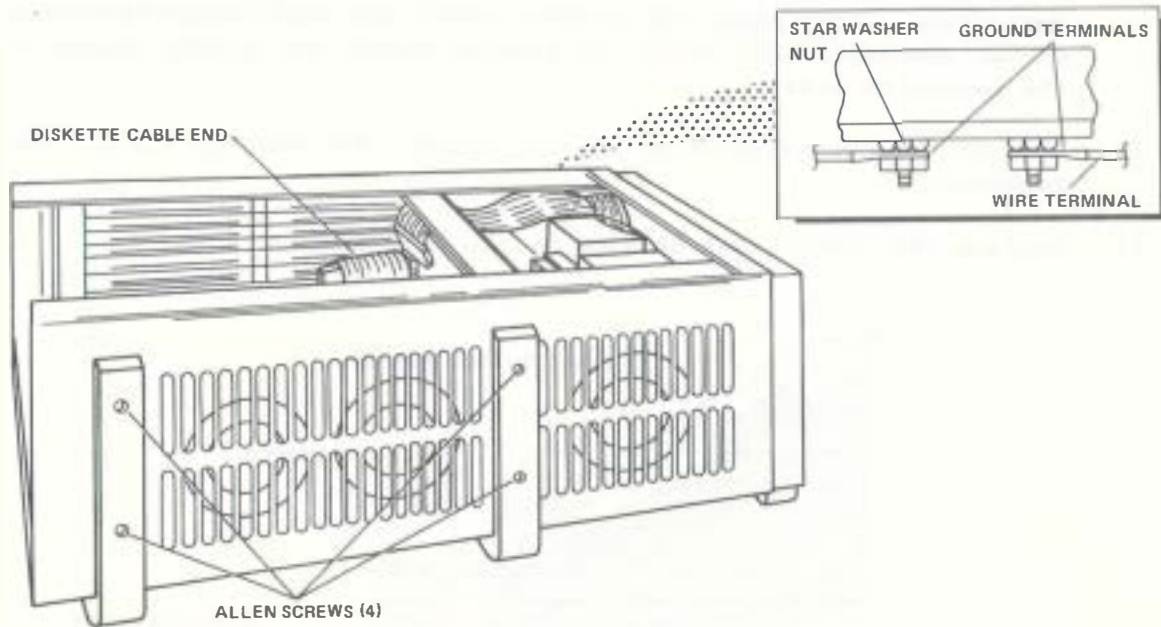

Figure 5-34. Fan Assembly
8. Remove the four Allen screws on the left side of the processor unit. See Figure 5-34.
9. Remove the nuts, wire terminals, and star washers from the ground terminal studs located below the processor top flange. See Figure 5-34.
2. Position the fan assembly so that the threaded holes in its bracket line up with the holes in the left side of the processor unit. See Figure 5-34.
3. Secure the fan assembly to the processor unit with the four Allen screws. See Figure 5-34.